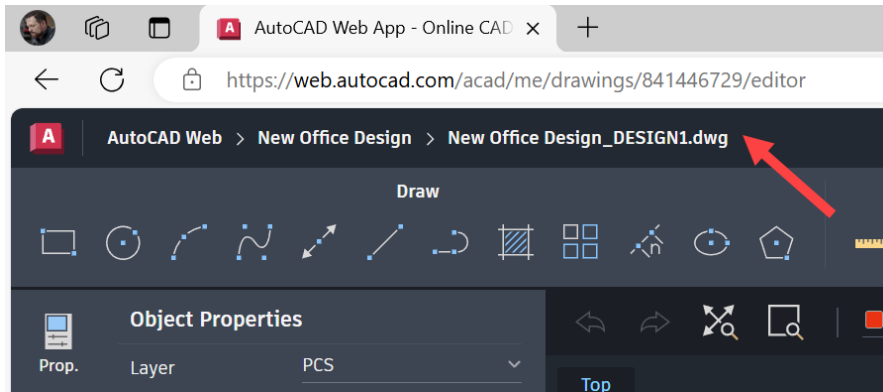

Figure 13.8: The name and location of the newly saved shared drawing in AutoCAD Web
6. Click on the **Save** button, and the shared drawing is now saved in the new folder with the new filename. You can see this in the top-left corner of the AutoCAD Web screen, as shown in *Figure 13.8*.